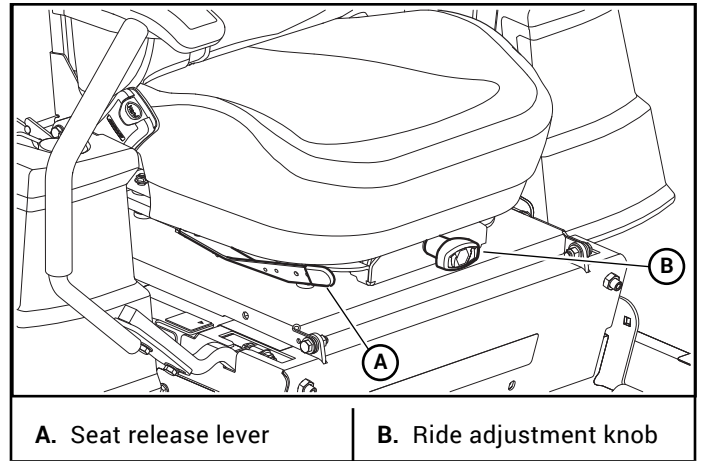

Figure 4-20
1. Use the seat release lever to slide the seat forward and rearward. Figure 4-20
2. Adjust the seat firmness by turning the ride adjustment knob. Figure 4-20